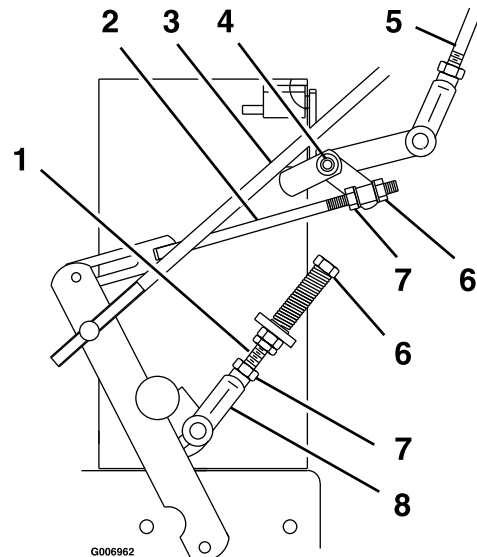

Figure 22
- Loosen the nut against the neutral control linkage yoke as shown in Figure 22.
- Loosen the front nut on left hydro control linkage as shown in Figure 22. Turn the rear control linkage adjusting nut counterclockwise until wheel rotates forward. Turn the rear nut of left control linkage clockwise 1/4 of a turn at a time, stopping to move the speed control forward and back to neutral, until left wheel stops rotating forward.